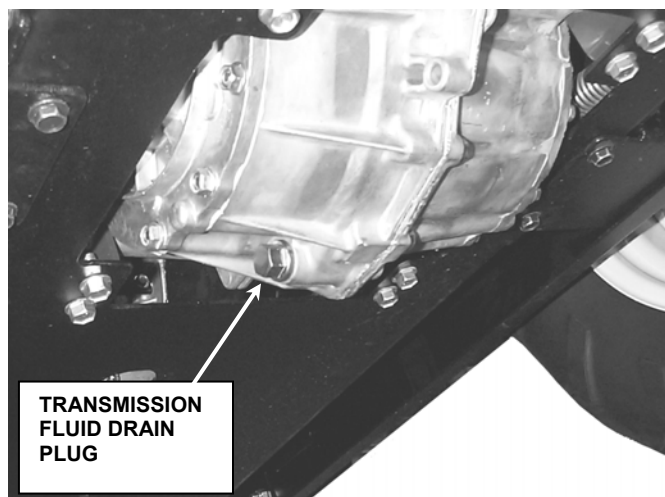

FIGURE 3.6
1. Remove drain plug located on left bottom side of transmission case. Drain fluid into 6 quart minimum capacity pan. See Figure 3.6.